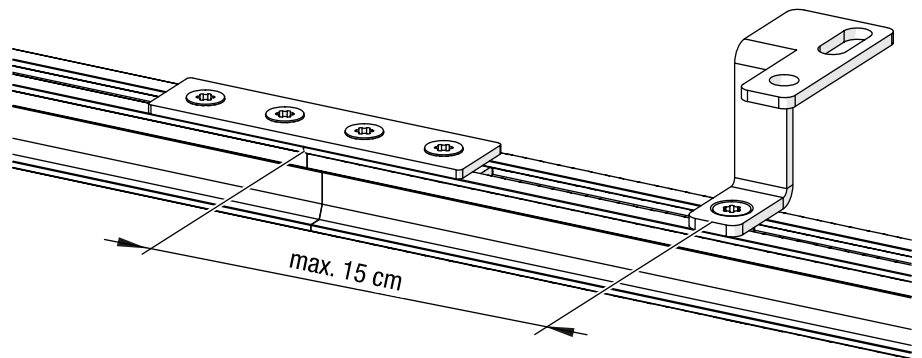

Fig. 40: Suspension distance to the joint (top cord operation as an example)
- ➔ Attach a suspension point on one side at a maximum distance of 15 cm from the centre of the suspension to the joint (see Fig. 40).